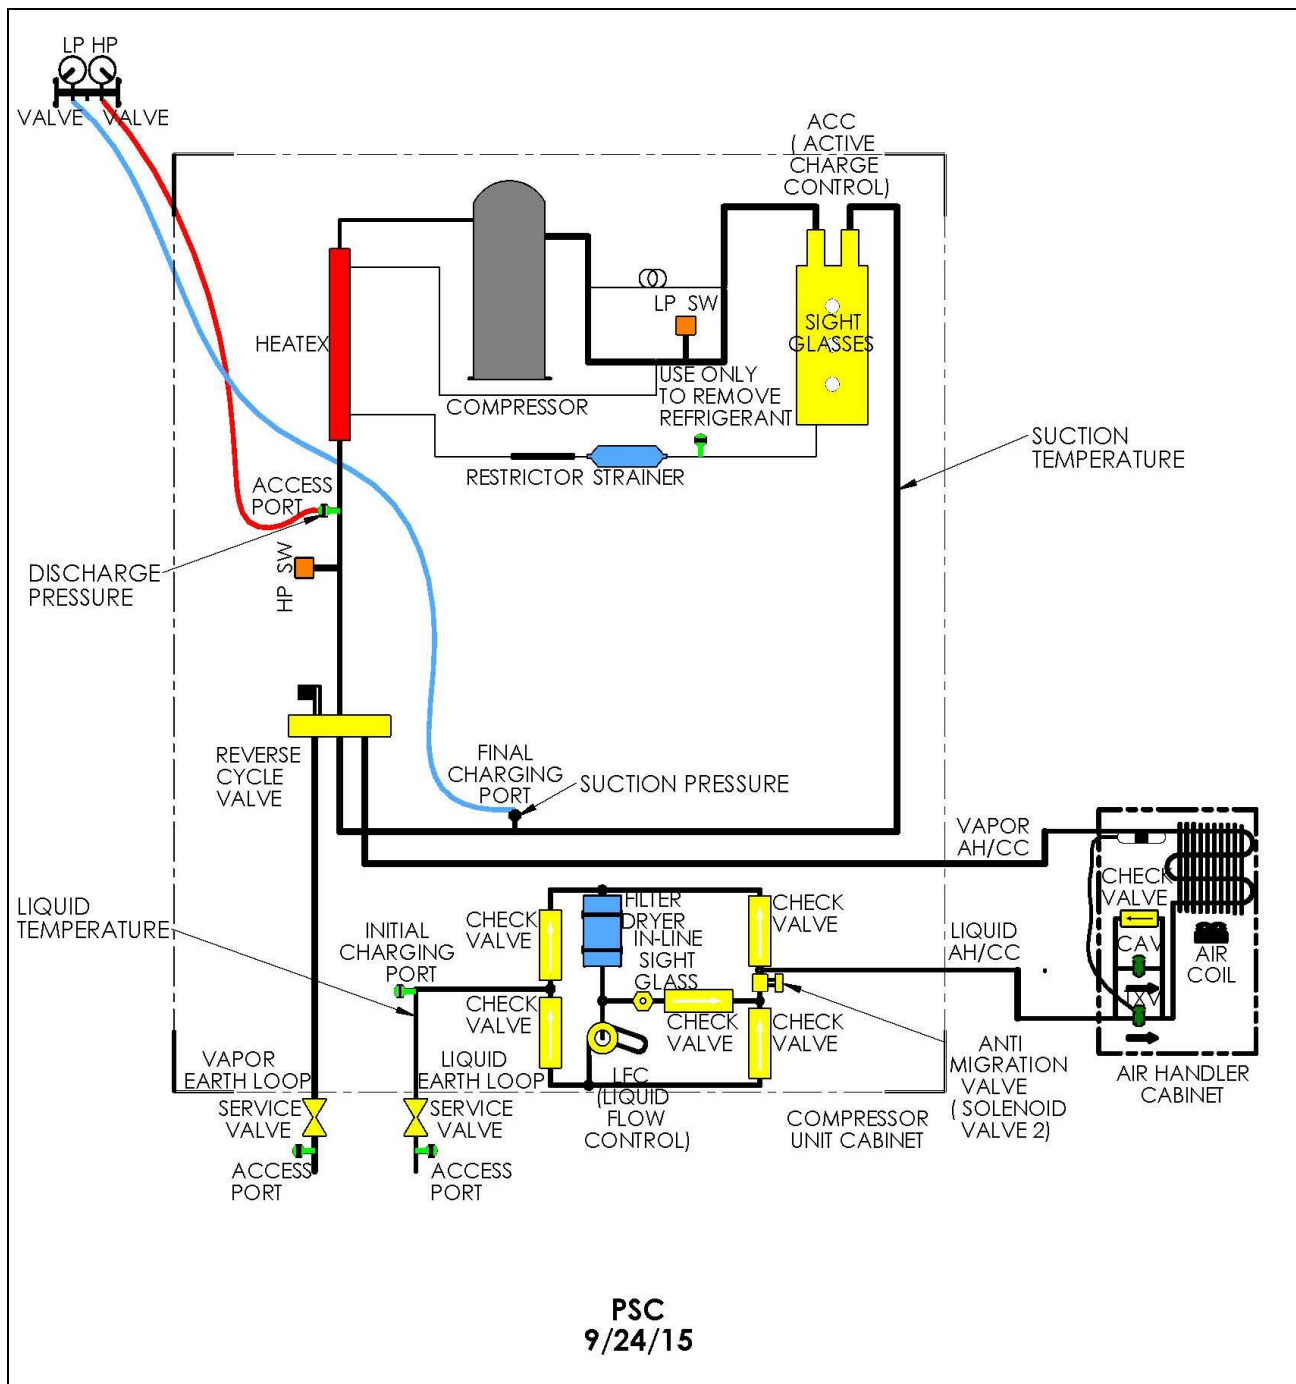

Figure 31. Pressure and Temperature Measurements
1. Start the system in **cool mode** by turning the thermostat set point temperature low enough to activate second stage cooling. Wait for 5 to 7 minutes for the built-in time delay to operate the compressor at full (stage 2) cooling capacity. Monitor the suction pressure on the LP gage as shown in Figure 31. The following steps indicate when the CAV (Cooling Assist Valve) closes. **Do not adjust the CAV!**
2. After suction pressure stabilizes, monitor the increasing compressor discharge pressure at the HP gage as shown in Figure 31.
4. CAV closure is to be verified by checking the temperature of the earth loop liquid line just inside the compressor unit, as shown in Figure 31 **if this liquid temperature is 100°F or above, the CAV is closed.**
11. After adjusting for subcooling, reconnect the high side hose to the discharge access port as shown in Figure 31 and monitor discharge pressure. If refrigerant was recovered to adjust subcooling, the discharge pressure could have dropped to less than 320 psig, reopening the CAV. If so, allow the system to run for a period of time until the discharge pressure is 320 psig or higher, and the suction pressure is 120 psig or higher. Check the liquid line temperature again to ensure that is 100°F or higher. When these conditions are achieved, the superheat is to be checked.
13. After the system has run for 20 minutes, attach a temperature clamp or probe securely on the inlet line to the ACC in the location shown in Figure 31. Insulate from the surrounding air. Read this as the suction temperature.
14. Read the suction pressure at the final charging port, on the LP gage, as shown in Figure 31.